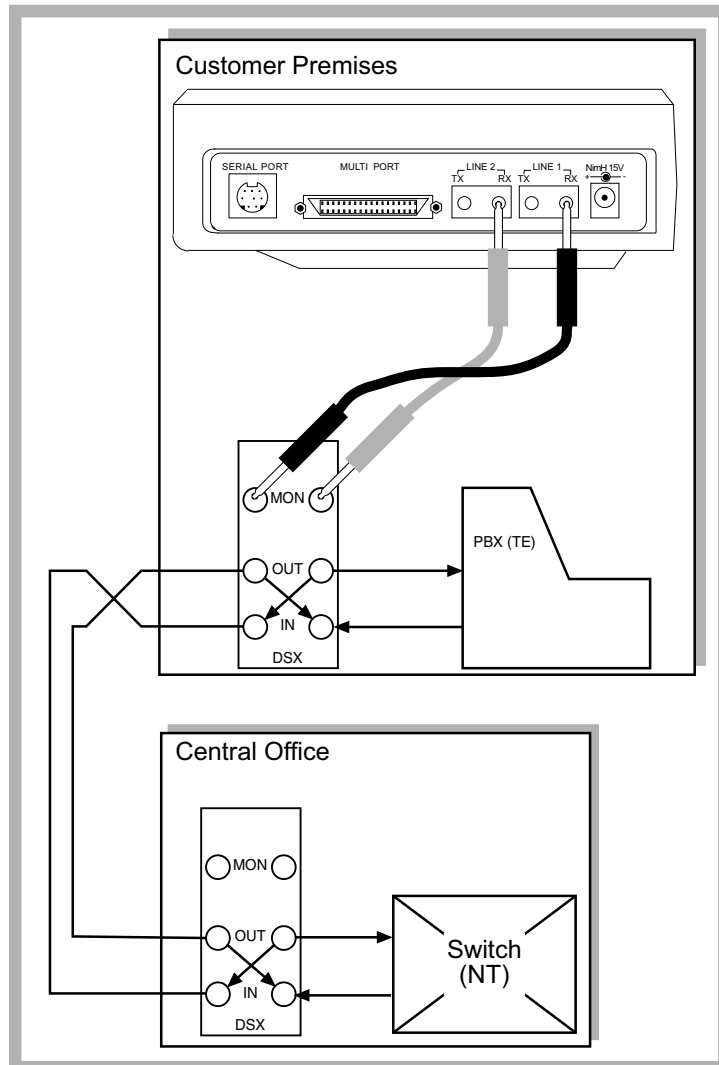

Figure 196 ISDN Monitoring
4. Connect the SunSet T10's LINE 1 and 2 Rx jacks to the DSX Monitor jacks, as shown in Figure 196. Press the HISTORY key on the keypad to clear the blinking LEDs. This test maybe performed anywhere access to the T1 circuit is provided, i.e. central office, customer premises, or span.